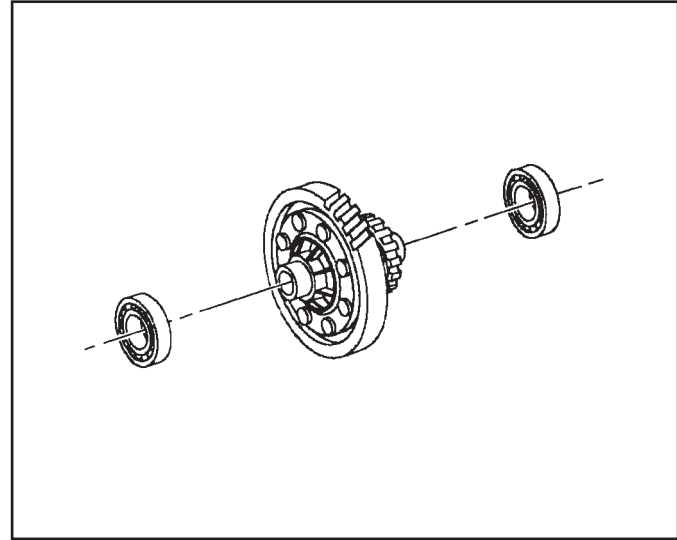

Figure 158
5. Inspect the differential side bearings for wear and pit marks and replace if necessary. To remove the bearings, use a suitable puller (See Figure 158).